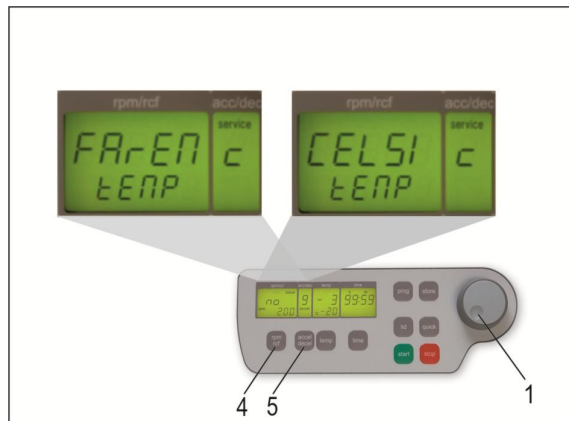

Figure 4
Proceed as described under point 1.8.1 to enter this program mode and then press the key „accel/decel“ (5). In the display „accel/decel“ (A-2) appears the word „service“. Now select the letter „C“ with the adjusting knob (1). As a result in the display „rpm/rcf“ (A-1) appear the words „CELSI/temp“. If you press the key „rpm/rcf“ (4) now, the word „CELSI“ flashes and you can change the display into Fahrenheit „FAREN“ with the adjusting knob (1) (see figure 4).